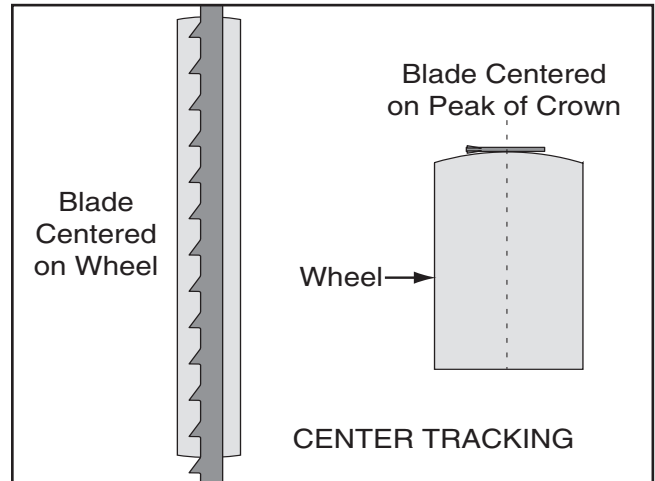

Figure 22. Center tracking profiles.
5. Spin the upper wheel by hand at least three times and watch how the blade rides on the crown of the wheel. Refer to **Figure 22** for an illustration of this concept.